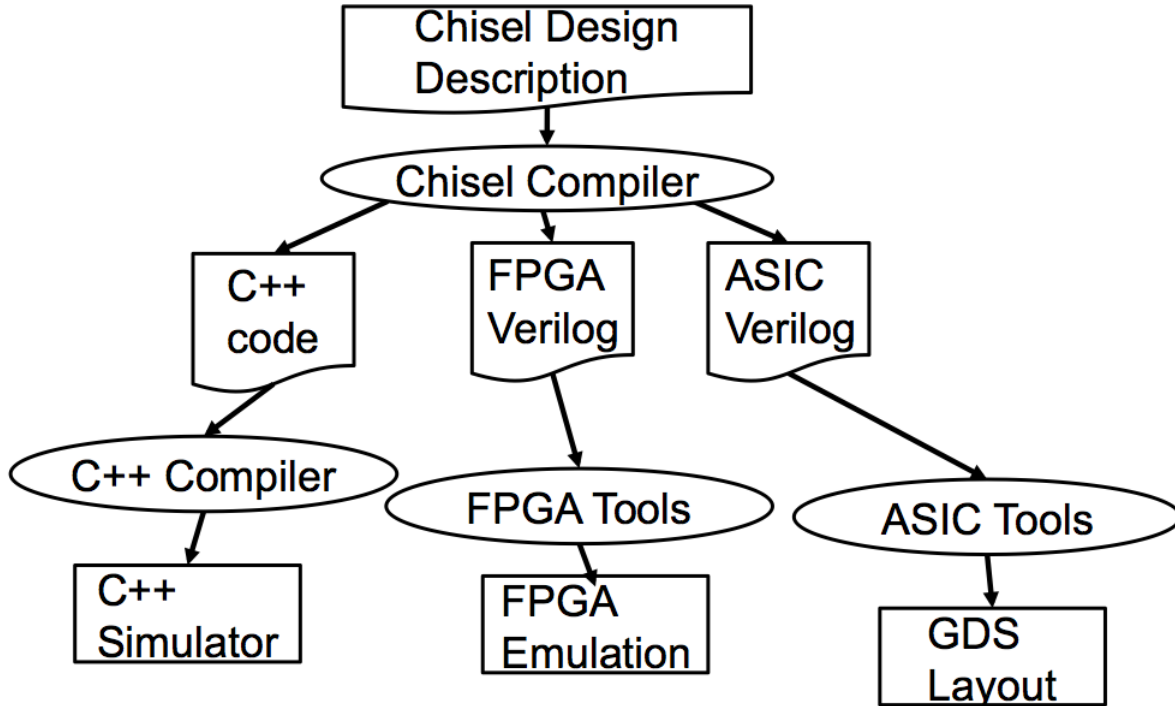

Figure 1: Chisel Design Flow. Only the C++ Simulator path will be exercised for this lab.
**Chisel**, an acronym for Constructing Hardware In a Scala Embedded Language, is a domain-specific language embedded inside of Scala. **Chisel** code describing a processor is actually a legal Scala program whose execution outputs either Verilog code or C++ code. Figure 1 shows the design flow of **Chisel**.